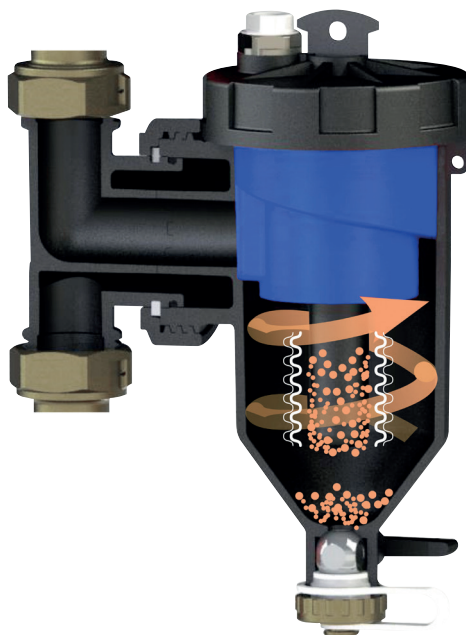

Fig. B2: magnetic action
- **magnetic action:** ferromagnetic particles are hold by the magnet (4) (fig. B2).